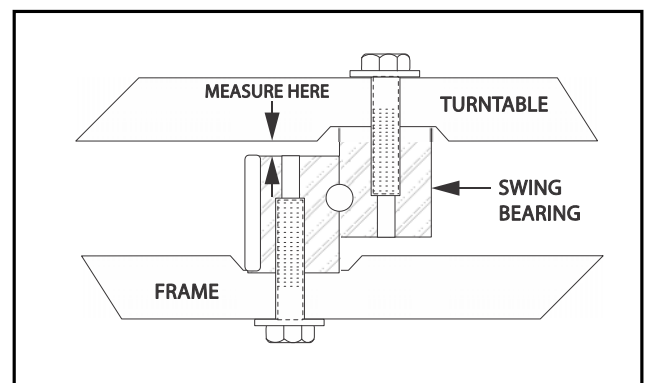
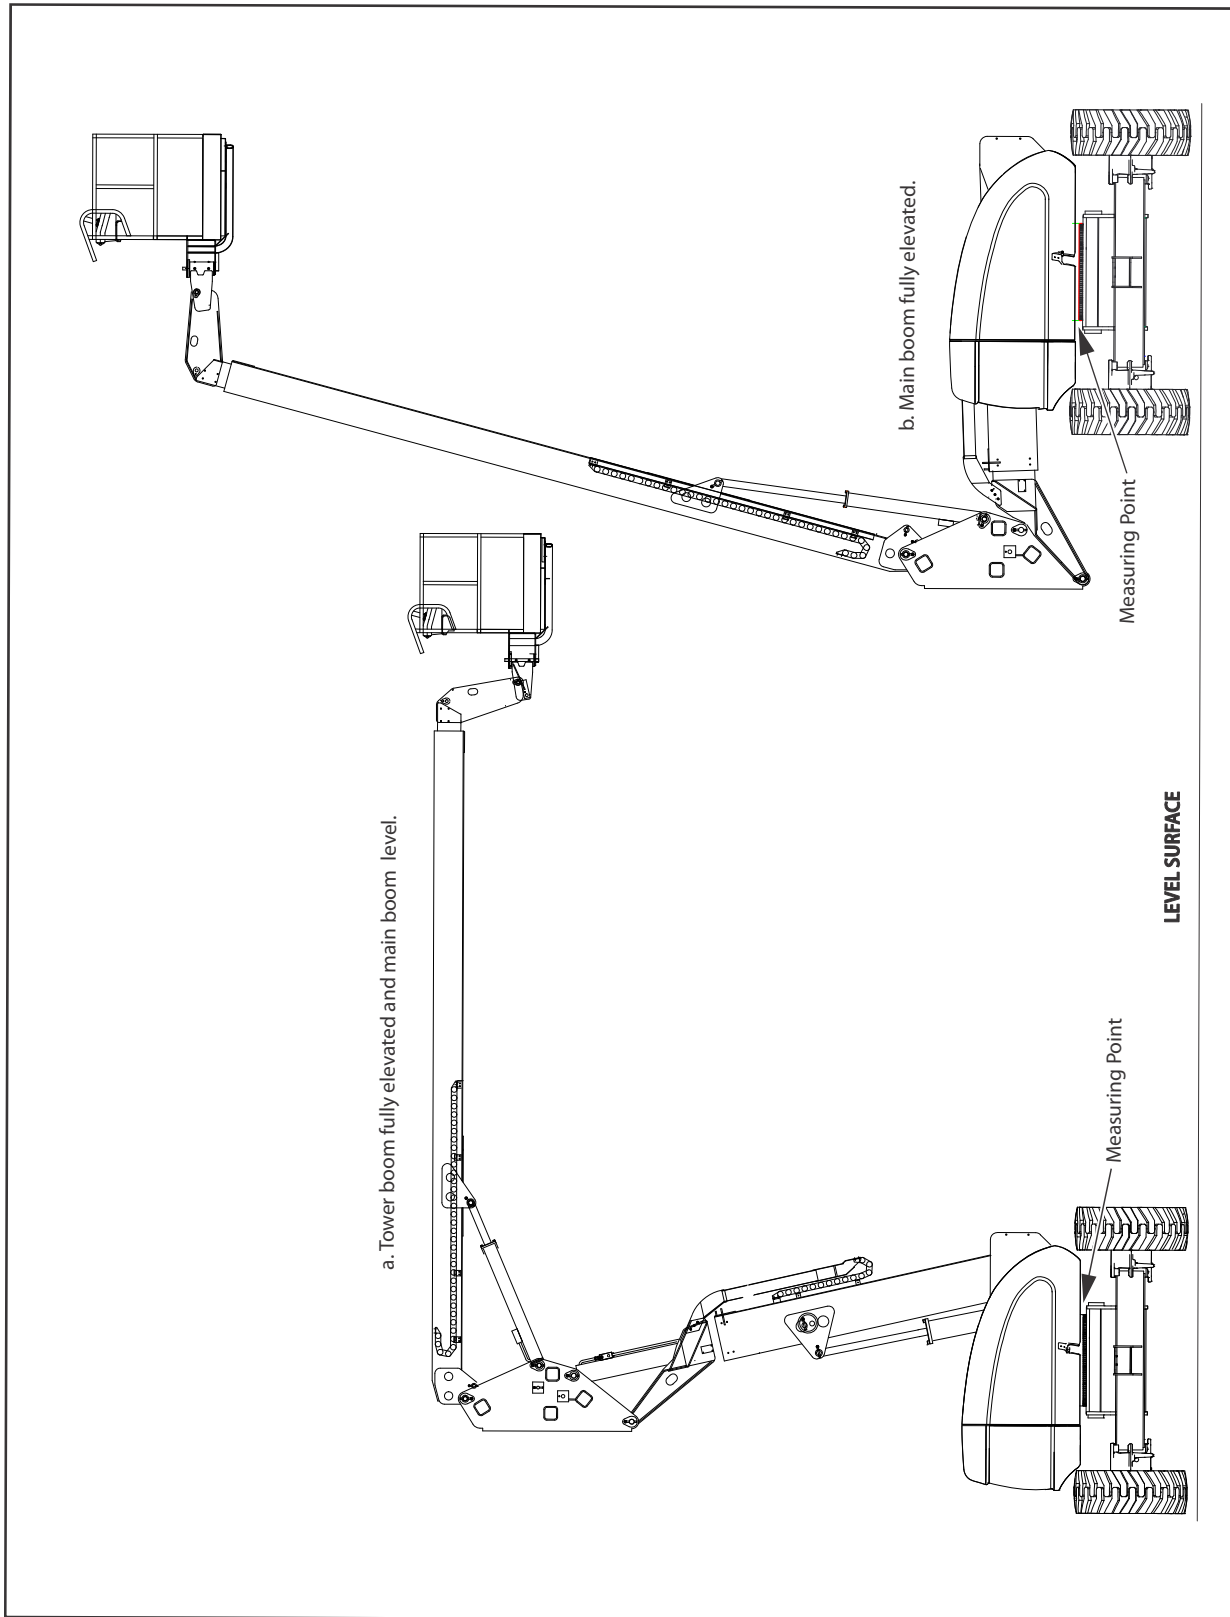

Figure 3-58. Swing Bearing Tolerance Measuring Point
Figure 3-59. Swing Bearing Tolerance Measurement Location & Boom Placement
1. From underside of machine, at rear center, with main boom fully elevated and fully retracted, as shown in Figure 3-59., Swing Bearing Tolerance Measurement Location & Boom Placement B, using a magnetic base dial indicator, measure and record distance between swing bearing and turntable as shown in Figure 3-58., Swing Bearing Tolerance Measuring Point.
2. At the same point, with main boom horizontal and tower boom fully elevated as shown in - Swing Bearing Tolerance Boom Placement A, using a magnetic base dial indicator, measure and record distance between swing bearing and turntable as shown in Figure 3-58., Swing Bearing Tolerance Measuring Point.